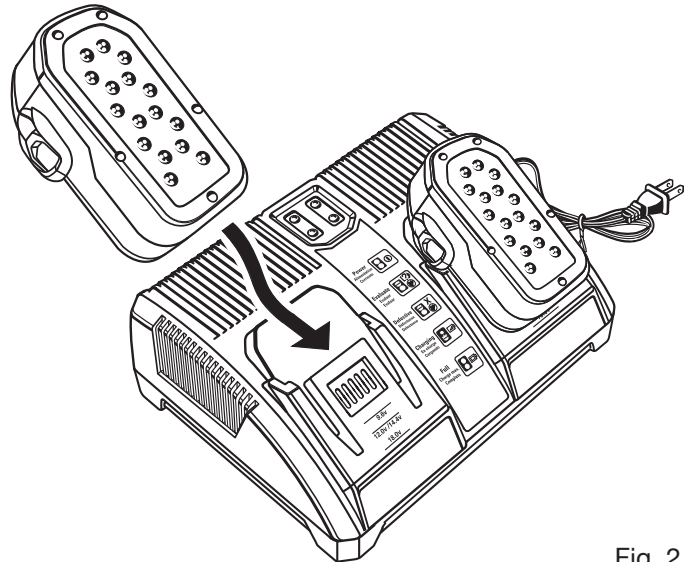

Fig. 2
- Attach the battery pack to the charger by aligning the raised ribs on the battery pack with the grooves in the charger, then slide the battery pack onto the charger. See Figure 2.